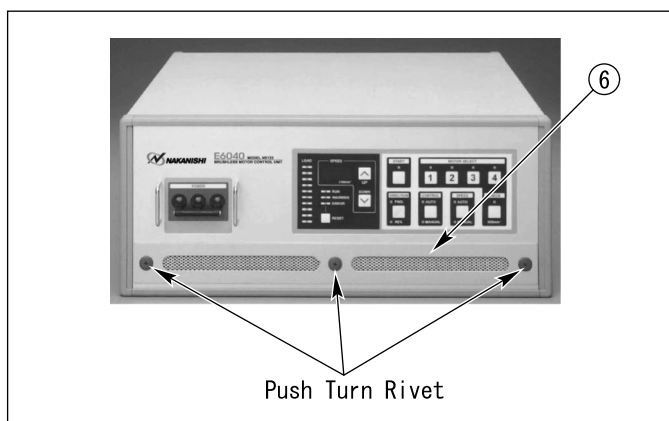

Fig 20
- 1) Remove the Front Panel Filter ⑥ by removing the 3 push turn rivets. (Fig 20)